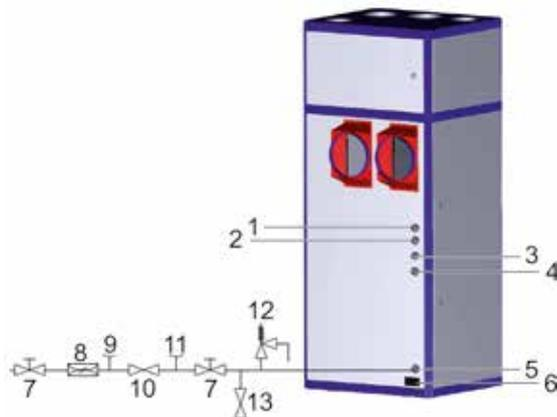

Figure 6: Rear side connections with cold water safety group
- ☞ Lead the electrical connections and the control cables through the opening to the electrical distribution board in the front of the unit (see. Figure 6, pos. 6).